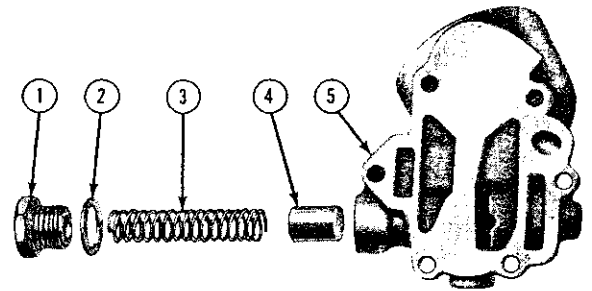

FIG. D1-31—OIL PUMP PRESSURE RELIEF VALVE
- b. Remove the oil pressure relief valve cap, spring and plunger. Refer to Fig. D1-31. Oil filter bypass valve plunger and spring are staked in place and should not be removed.